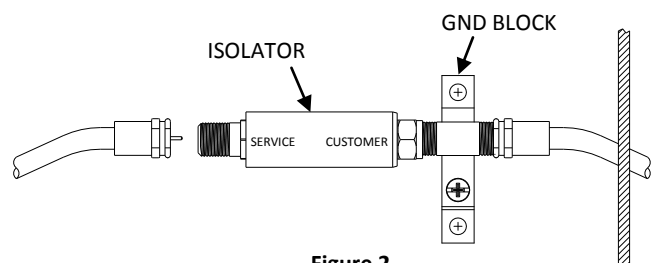

Figure 2
3. Disconnect the outside plant coax by unscrewing the F-Type male connector from the ground block and screw on the tii 220 Isolator with the "CUSTOMER" (male end) to the ground block (See Figure 2).